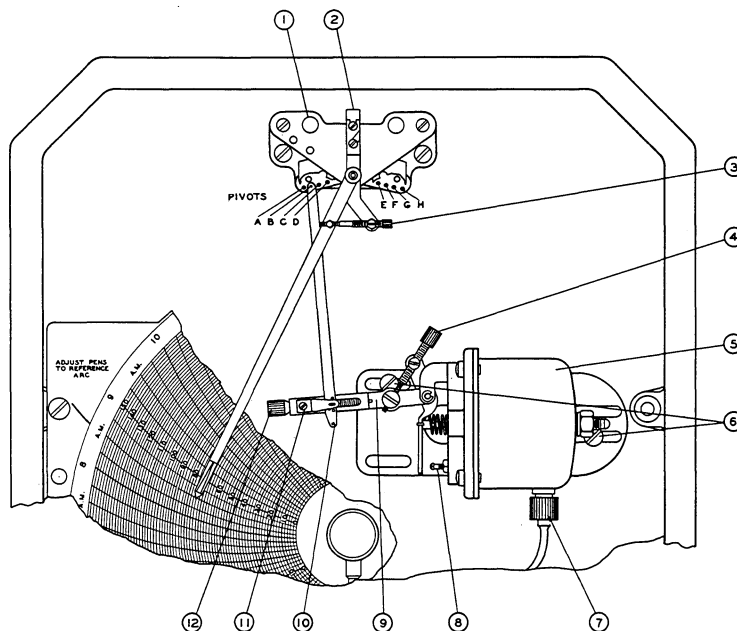

Fig. 10
- b. Be sure end hole only of the link is over the correct pivot pin on the pen arm lever. Pivot pins A and H are for 10" charts, and pins B and G are for 12" charts. See Fig. 10.
- a. Loosen screws (18).
- a. If pen moves too far clip (19) should be moved towards the spring. If pen hasn't moved far enough the clip should be moved away from the spring.